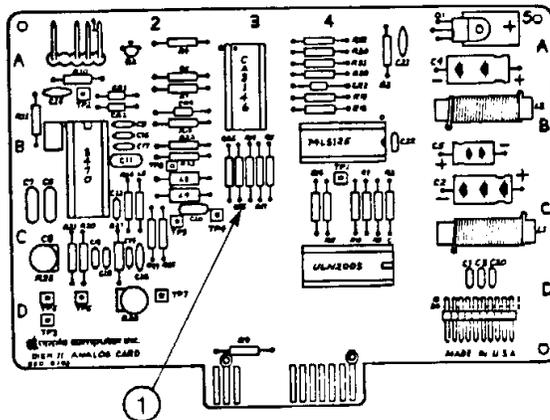

FIGURE 7
7. Hook the ground clip to TP4 (Test Point 4) on the Disk Analog Card (Figure 7, #1) and the oscilloscope probe to the front side of R11 (Resistor 11) on the Disk Analog Card (Figure 7, #2).